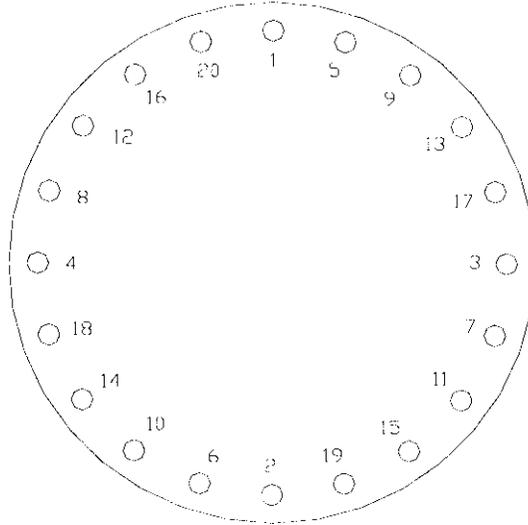

Figure 1.25 Tightening sequence for the 20 Conflat bolts.
1.23 On the power lead flange, number the Conflat bolt holes 1 through 20 as indicated by Figure 1.25.
- 1.25** Use a 5/16 12-point socket to tighten the 20 Conflat bolts. The tightening must be made gradually in 1/4 turn increments to a final torque of 15 ft-lbf (180 in-lbf). The tightening sequence is given by Fig. 1.25.